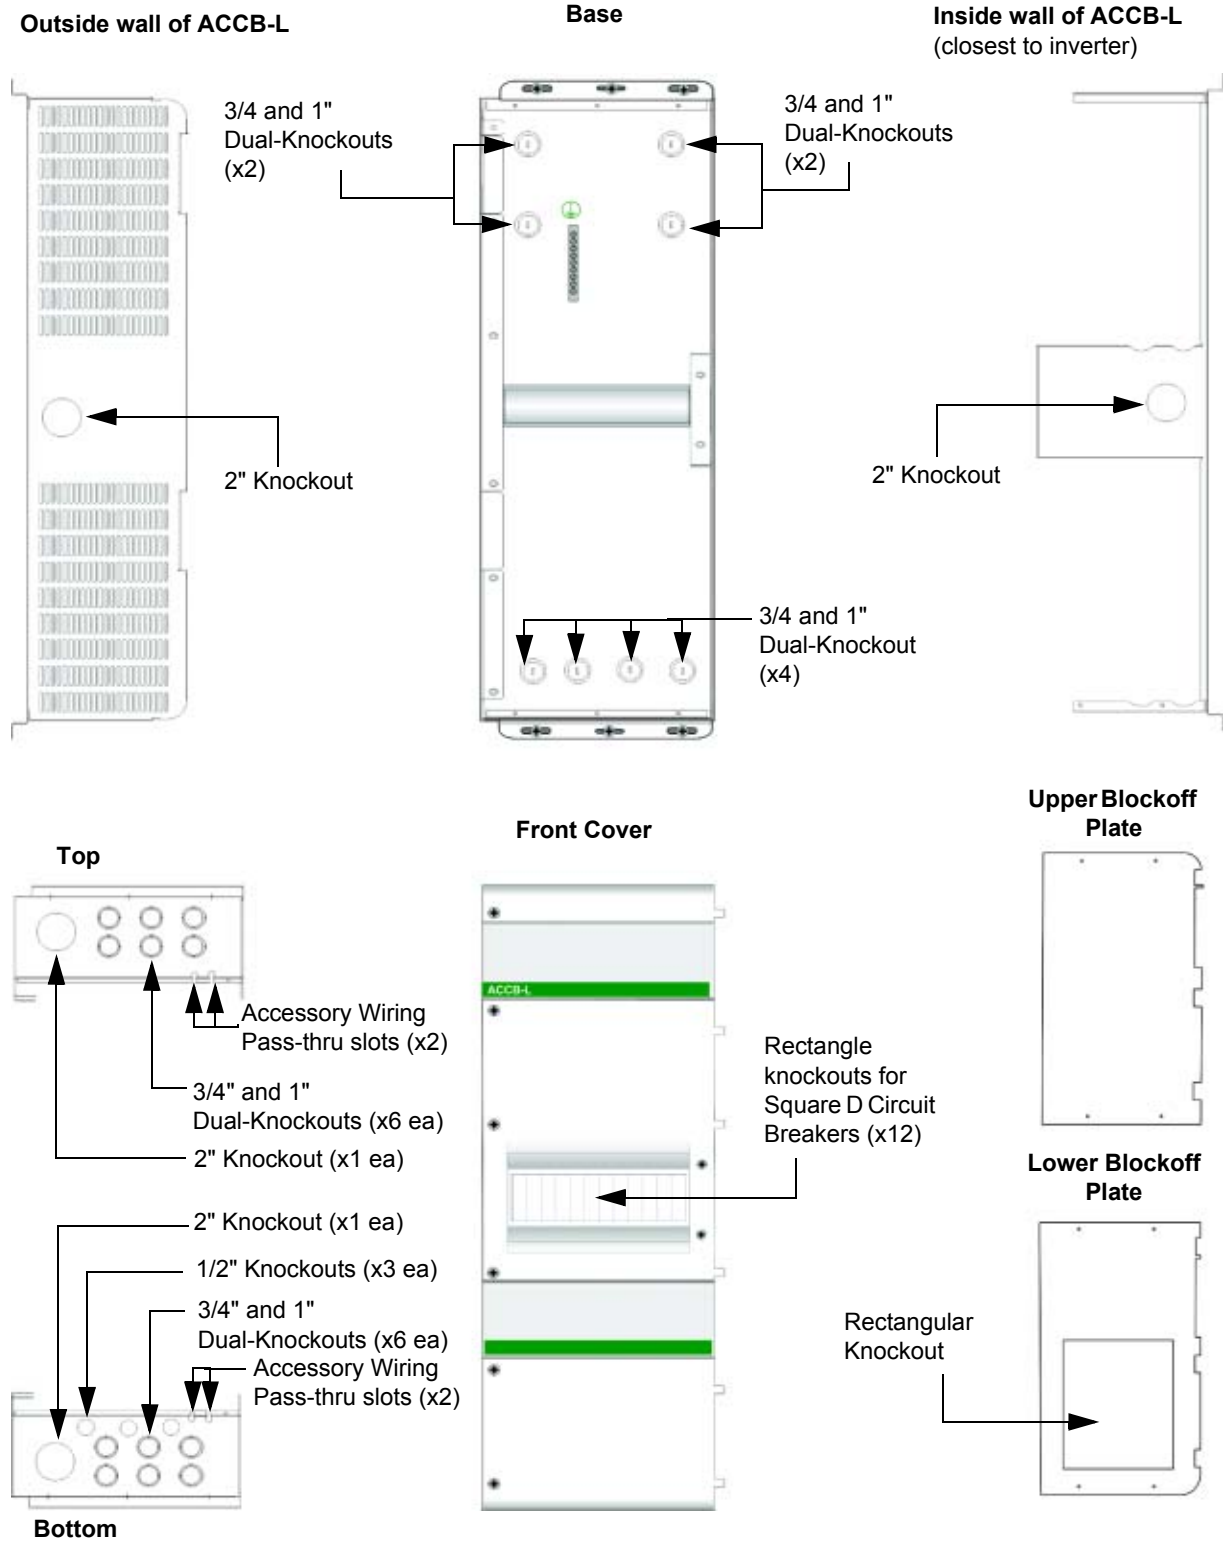

Figure 2-6 Knockouts Locations
2. Remove the appropriate knockouts from the Long AC Conduit Box for wire runs from utility and/or inverter panels, a generator, and/or additional inverters. See Figure 2-6 for the locations of the knockouts on the Long AC Conduit Box.
3. If additional circuit breakers are to be added to the Long AC Conduit Box, remove one knockout on the top cover for each additional circuit breaker to be installed. See Figure 2-6 for the locations of the knockouts on the Long AC Conduit Box top cover.